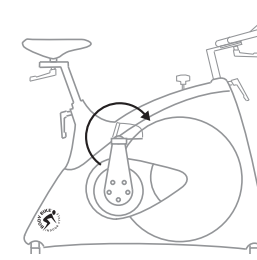

Figure 11
- the pedals should always be screwed on in the direction of the handlebar, see figure 11.